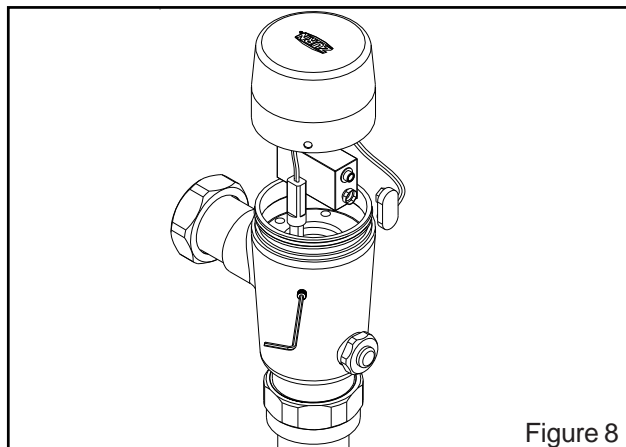

Figure 8
- a.) Turn off the stop valve. (A)
- b.) Remove the cover screw and remove the cap. See Figure 8
- d.) Before reassembling the electronic cap (L), make sure external o-ring is not damaged. Replace if necessary.
- e.) Make sure inside of cap is dry before re-connecting the solenoid valve connector (J).
- f.) Assemble the cap (L).